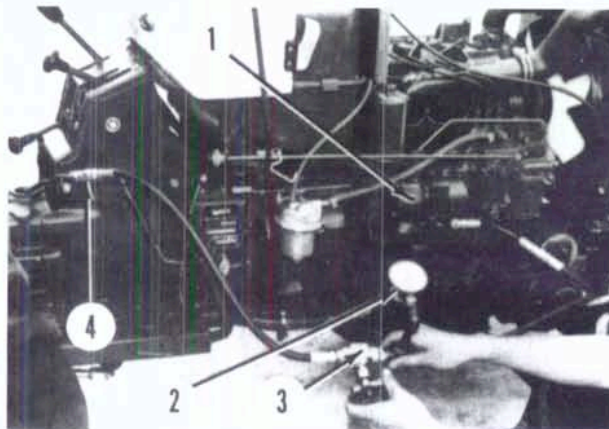

Fig. 153—Connect pressure gage (2) and flow control valve (3) to pump discharge port (1) to check pump pressure. Refer to text.
**116. PUMP DISCHARGE PRESSURE.** To isolate pump from hydraulic system and check pump discharge pressure, proceed as follows: Disconnect discharge pipe from pump and install a pressure gage and flow control valve as shown in Fig. 153. Place pressure gage return hose into reservoir filler opening.